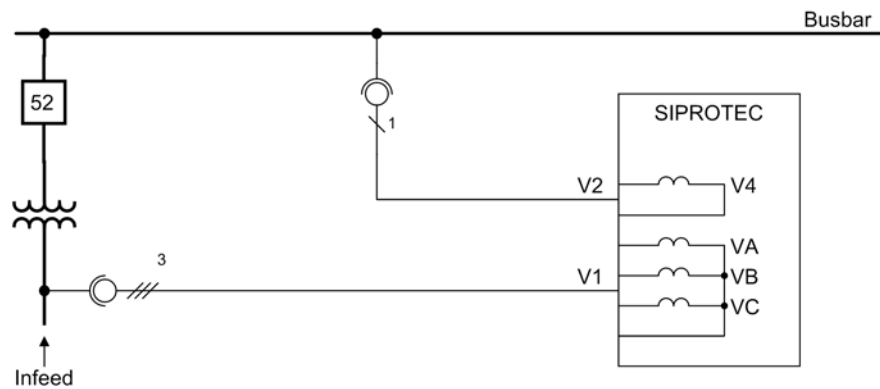
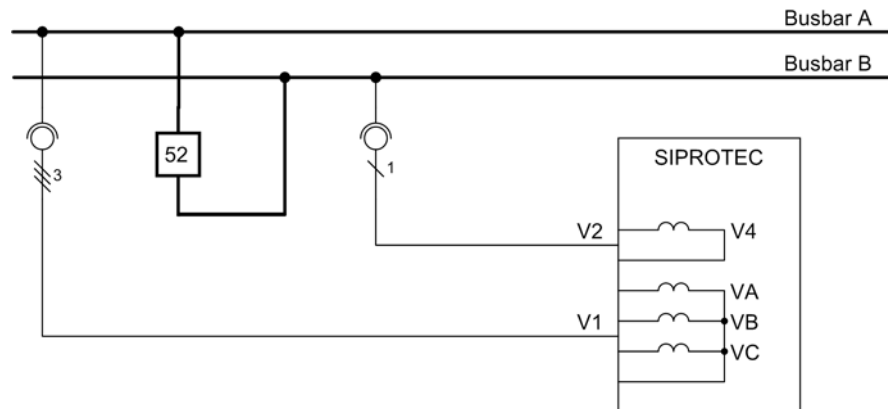

Figure 2-100 Infeed
Figure 2-101 Bus coupler
- Typical applications are, for example, the synchronism check of a feeder and a busbar (see Figure 2-100) or the synchronism check of two busbars via bus coupler (see Figure 2-101).
If a transformer is connected between the two voltage transformers (Figure 2-100), its vector group can be adapted in the 7SJ64 relay so that external adaptors are not required.